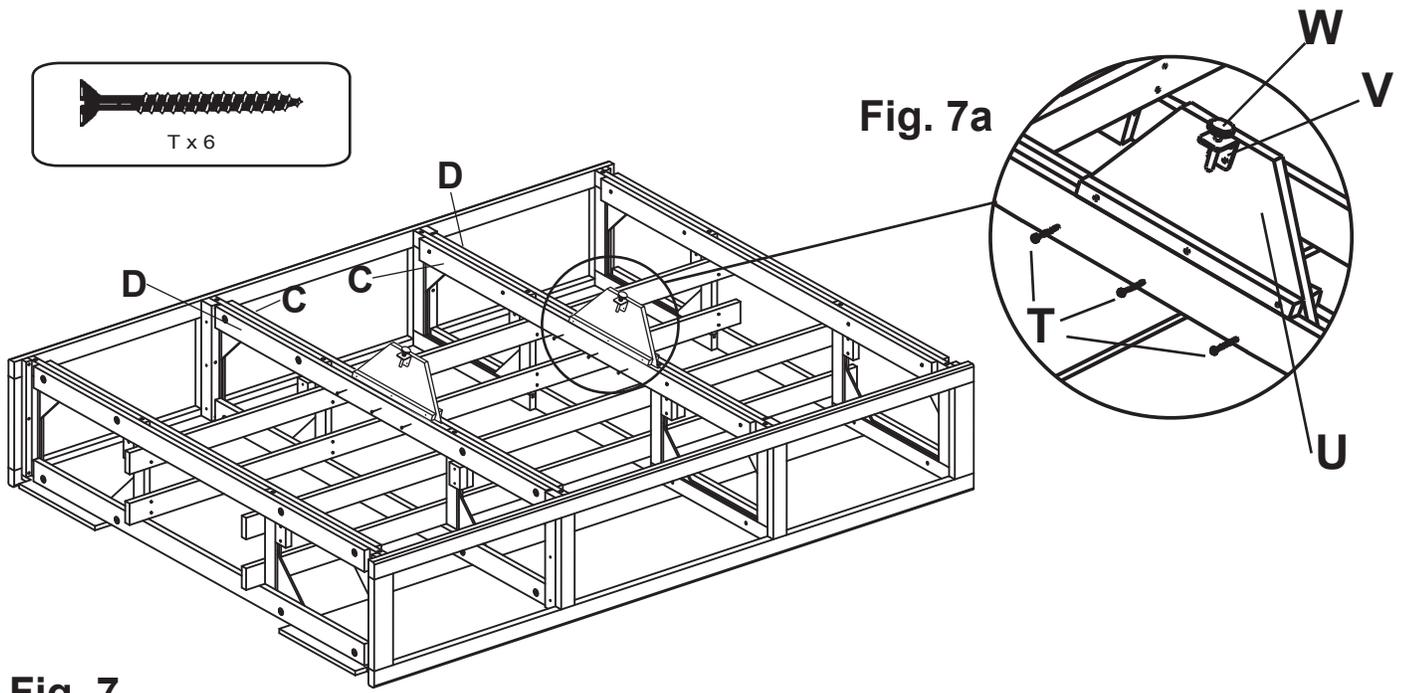

Fig. 7
7. On each inner pair of trestles (C and D), place a Foot Assembly (U) between the two middle trestles as shown in Figure 7. Insert three #8x2" Black Screws (T) as shown in Figure 7a.